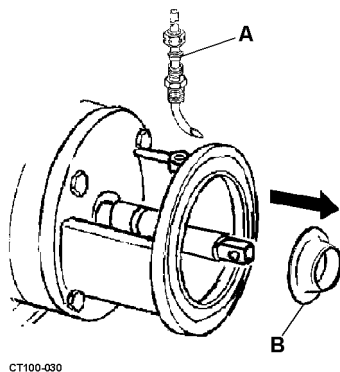

Figure 11 - Cascade System Installation
When this option is ordered, a fitting assembly (see Figure 11, item A) is supplied for directing a flow of water onto the backplate/ seal area.
- The water cascade (see Figure 11, item A) mounts in the adapter above the seal on the assembled backplate to flow water onto the seal face.